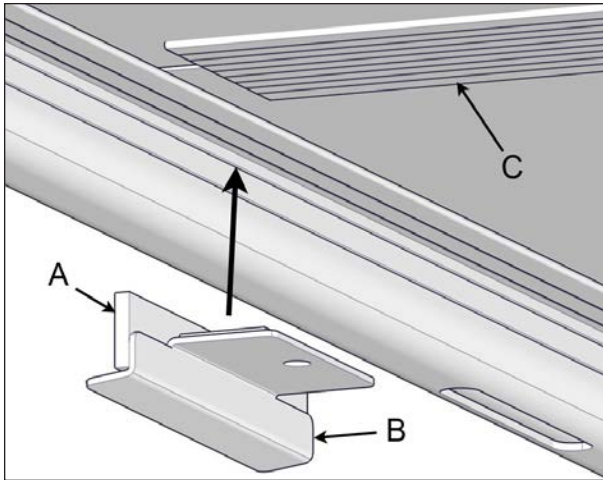

FIGURE 92: WIPER LOCATION
3. Under the cover, locate an I-beam and orientate the wide flap of the wiper outwards of the cover, see Figure 92.